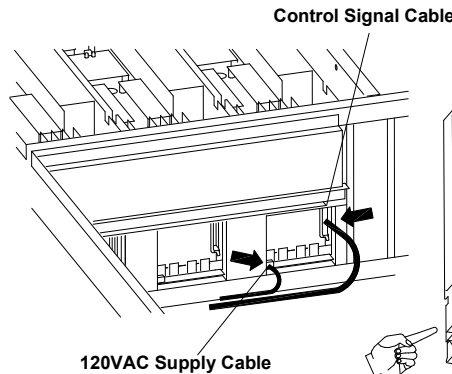

FIG.3
4. Disconnect Control Signal Cable and 120VAC Supply Cable from bottom of Cell. Access from below through LV Compartment. Figure 3.